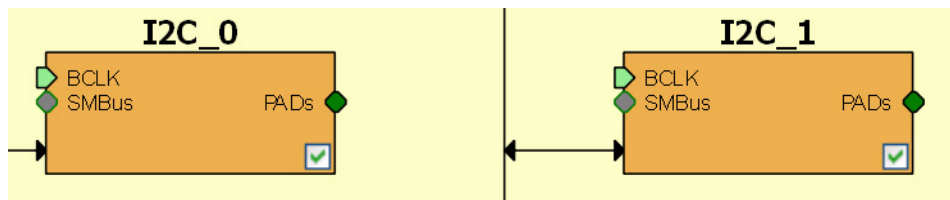

Figure 1 · MSS I2C
**Enabling/Disabling I2C Instances** - On the MSS canvas, you need to enable (default) or disable each I2C instance based on whether it is being used into your current application (Figure 1). Disabled I2C instances are held in reset (lowest power state) after the Actel system boot code is executed.